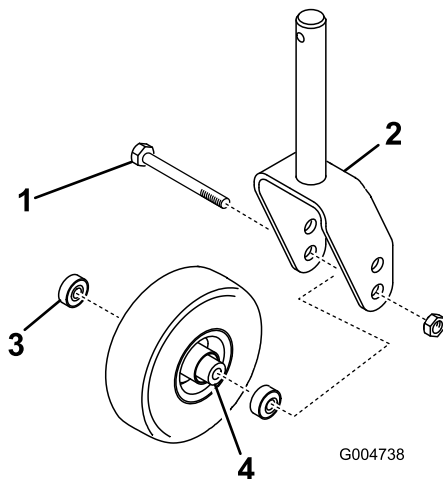
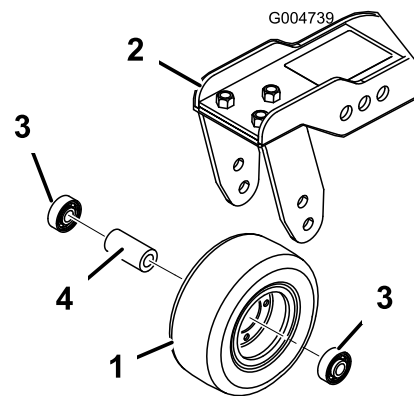

Figure 80
Figure 81
1. Remove the locknut from the bolt holding the caster-wheel assembly between the caster fork (Figure 80) or the caster-pivot arm (Figure 81).
2. Remove the bearing from the wheel hub and allow the bearing spacer to fall out (Figure 80 and Figure 81).